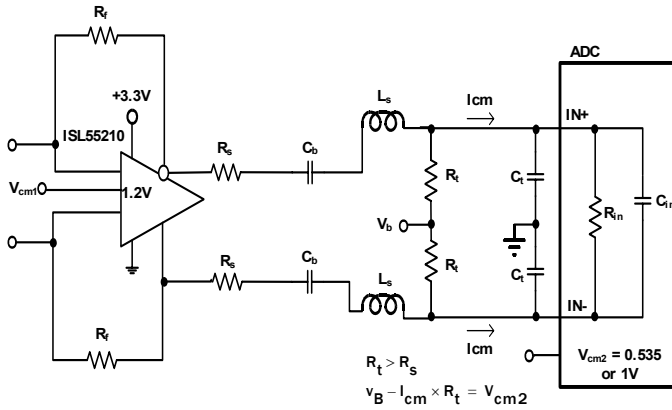
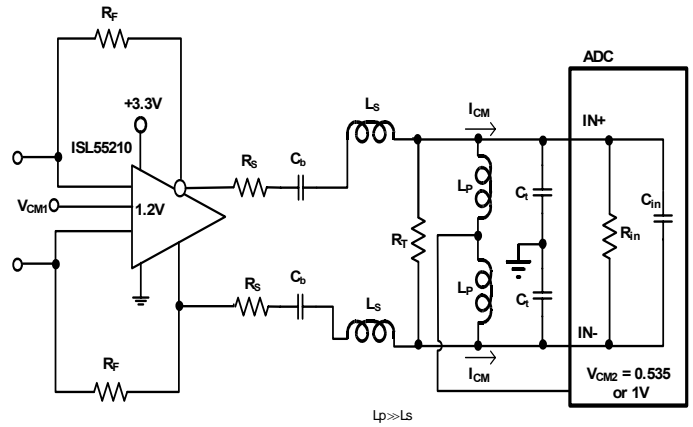

FIGURE 34. AC COUPLED, BROADBAND RLC INTERSTAGE FILTER DESIGN
FIGURE 35. AC COUPLED, HIGHER FREQUENCY RLC FILTER DESIGN
2. AC coupled, higher frequency range interstage filter design. This design replaces the  $R_t$  resistors in Figure 34 with large valued inductors and implements the filter just using shunt resistors at the end of the RLC filter (here, that is just the ADC internal differential  $R_{in}$ ). In this case, the ADC  $V_{CM}$  can be tied to the centerpoint of the bias path inductors (very much like a Bias-T) to provide the common mode voltage and current to the ADC inputs. These bias inductors do limit the low frequency end of the operation where, with  $1\mu\text{H}$  values, operation from 10MHz to 200MHz is supported using the approach of Figure 35.